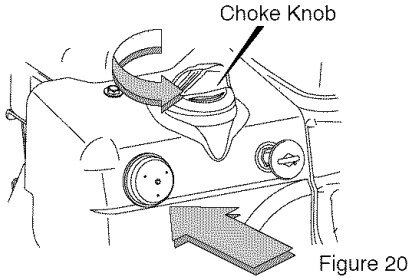

Figure 20
2. Turn the rotary choke knob to the **CHOKE** position (see Figure 20).
3. Depress the primer button three times (see Figure 20).